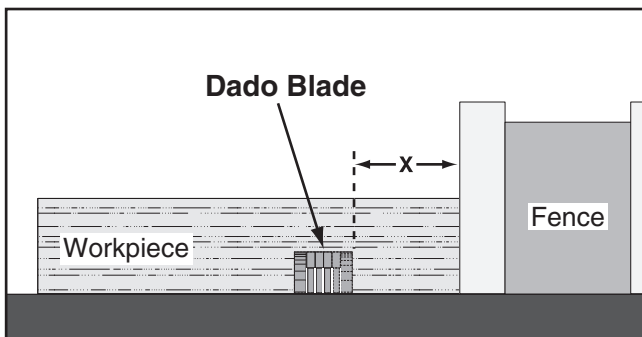

Figure 59. Example of a dado being cut with a dado blade.
3. Adjust distance between fence and inside edge of blade, as shown in **Figure 59** on **Page 37**, to dado length of a workpiece.